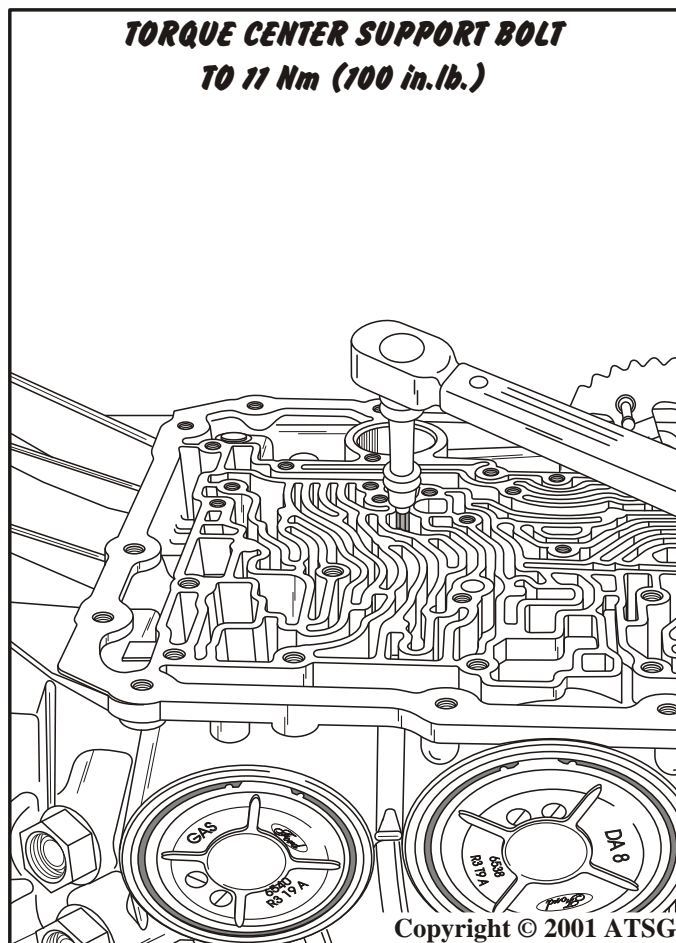

Figure 170
61. Rotate the transmission so that the valve body surface is facing up, as shown in Figure 170.
62. Torque the center support retaining bolt down to 11 Nm (100 in.lb.), (See Figure 170).